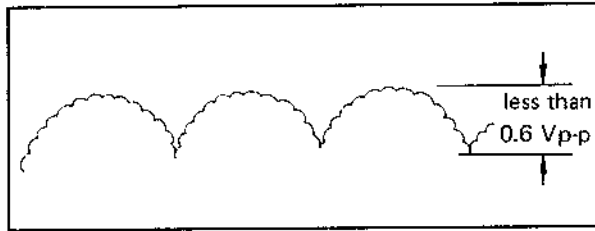

Fig. 5-6 AC ripple
2. Confirm a DC level of approx. 7 V and AC ripple of less than 0.6 Vp-p. See Fig. 5-6.